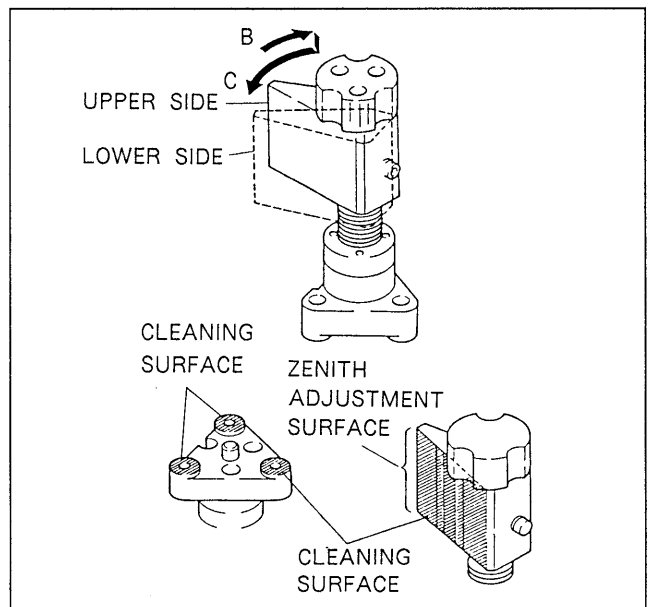

Fig. 6-18-6. Use of TC Positioning Tool
- ① When the knob shown in Fig. 6-18-6 is turned in the arrow B direction, the positioning plate moves up and down. After moving upward or downward, the tool returns in the arrow C direction (*) automatically.
- ② When positioning to the upper side :